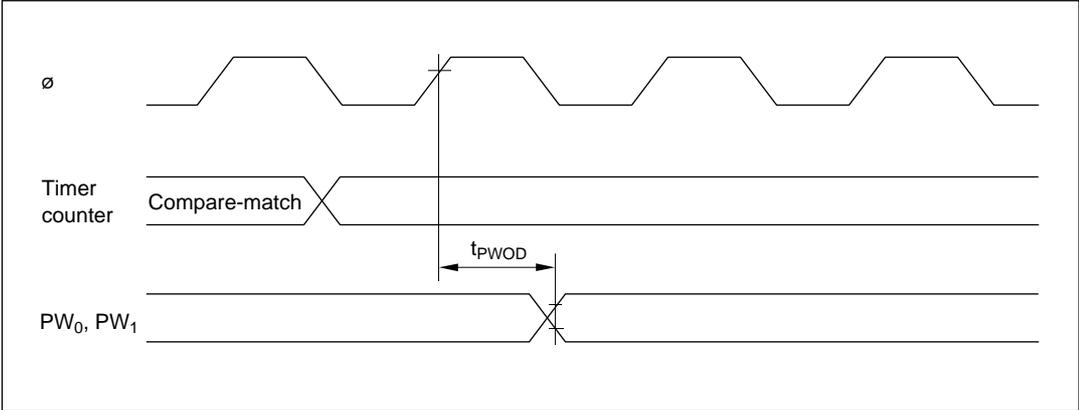

Figure 20-15 PWM Timer Output Timing
20.3.5 PWM Timer Timing	Figure 20-15